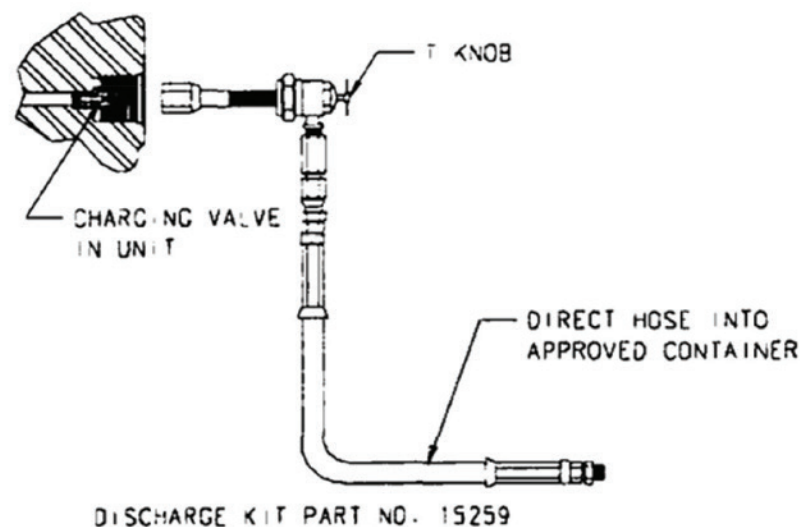

Figure 4
2. Refer to Figure 4. Turn valve extension on to valve body of unit. "Snug" down with 7/16" deep socket and thumb wheel. Do not over tighten.